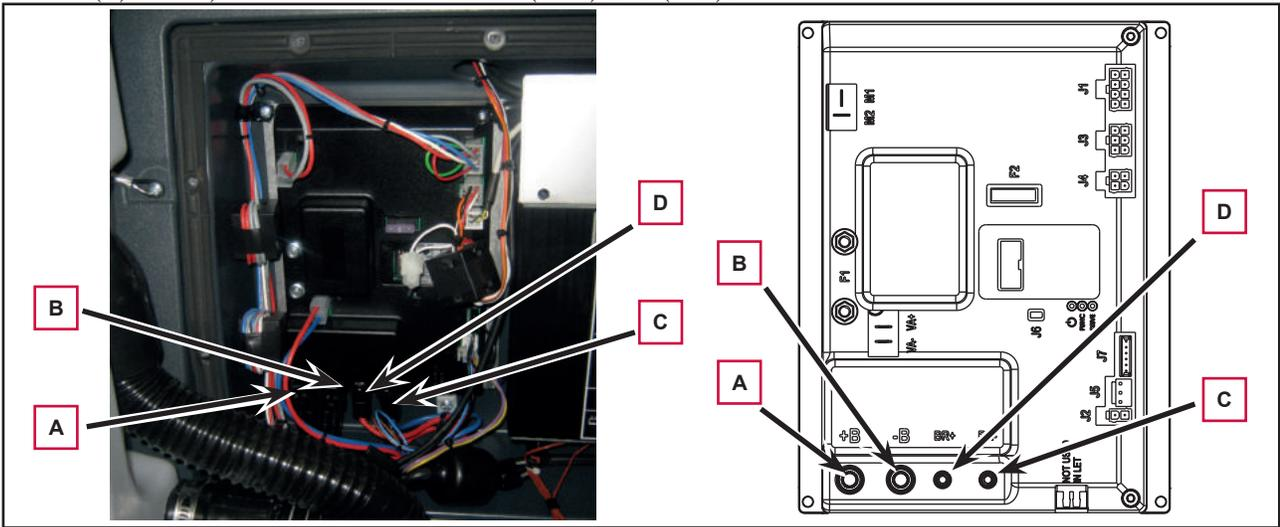

Figure 11
6. Disconnect the following connections sequentially (Figure 11):
- (A) and (B) Board power supply connection (B+) and (B-).
- (C) and (D) Brush motor connection (BR+) and (BR-).